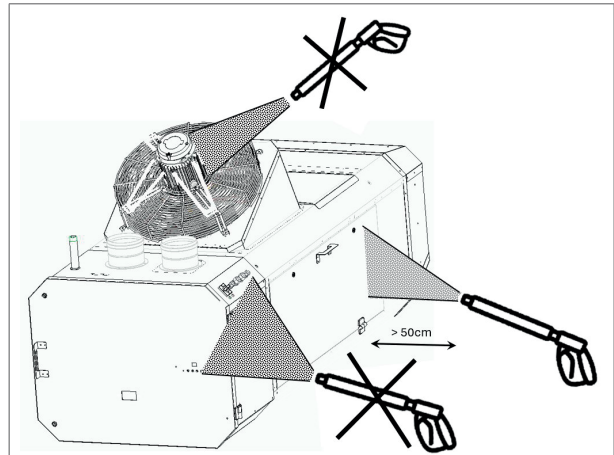

Figure 28 - Maintain a distance of 50 cm between the spray nozzle and the surface of the air heater being cleaned
1. Maintain a distance of 50 cm between the spray nozzle and the surface of the air heater being cleaned (figure 28).
3. Never spray water or chemicals into the fan opening or fan motor (figure 28).